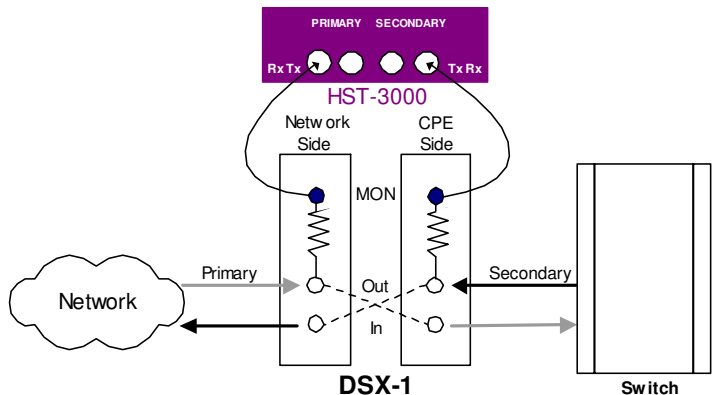

Figure 18 Monitor connections
- 9 Connect the HST-3000 to the test access point (see Figure 18):